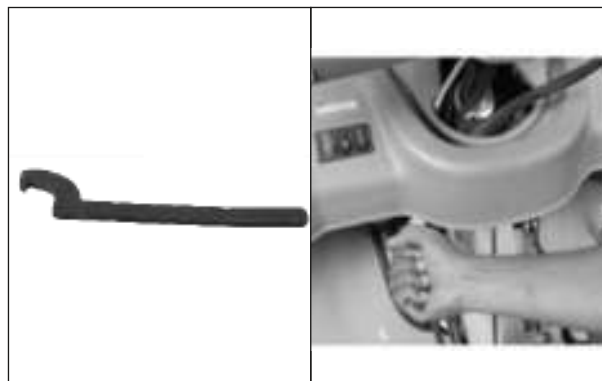

Fig. 1.28
- Keep the spanner on chuck nut slot and loosen / tighten the chuck nut to the required torque.(Fig. 1.28)